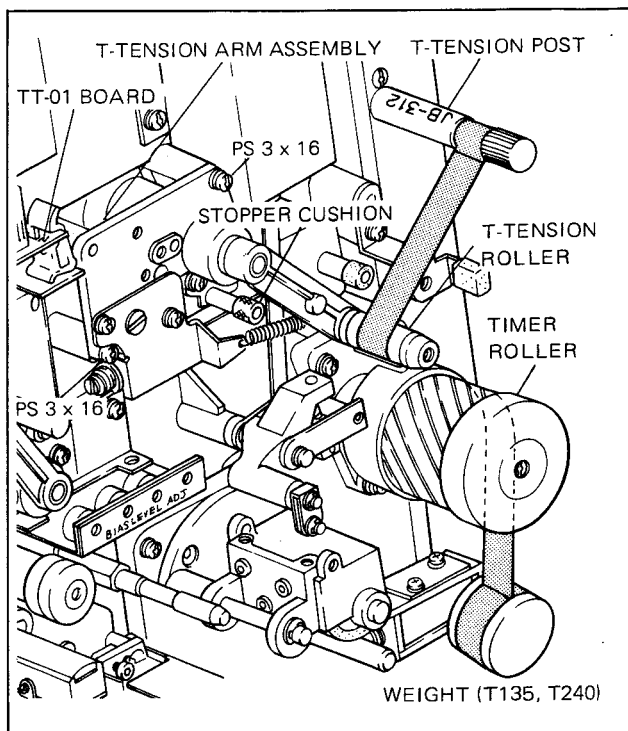

Fig. 3-41. T-Tension Arm Replacement
- B. When the parts (bearing etc.) composing the T-tension roller shown in Fig. 3-41 have been replaced, confirm the tape path according to section 3-24-2.
2. Remove the two screws (PS3×16) shown in Fig. 3-41, and remove the T-tension arm assembly. Install the new T-tension arm assembly, and insert the connector CN004 at its original position.
3. Install the T-tension post (the part of the prepared adjustment tool in the position shown in the right of Fig. 3-41. Apply the weight marked T135 as shown in the figure.